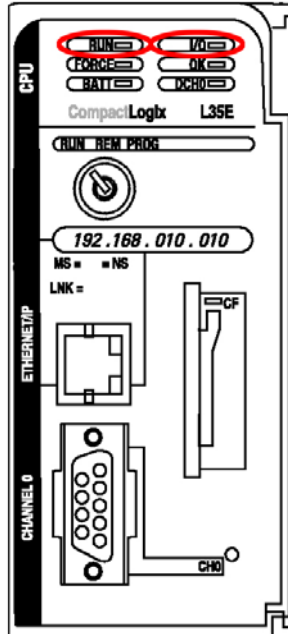

Fig 8
- Wait for the **Run** LED on the top front of the CPU to turn solid green and for the **I/O** LED to stop blinking (*Fig 8*) for 30 seconds. If a firmware upgrade is not required, this will only take